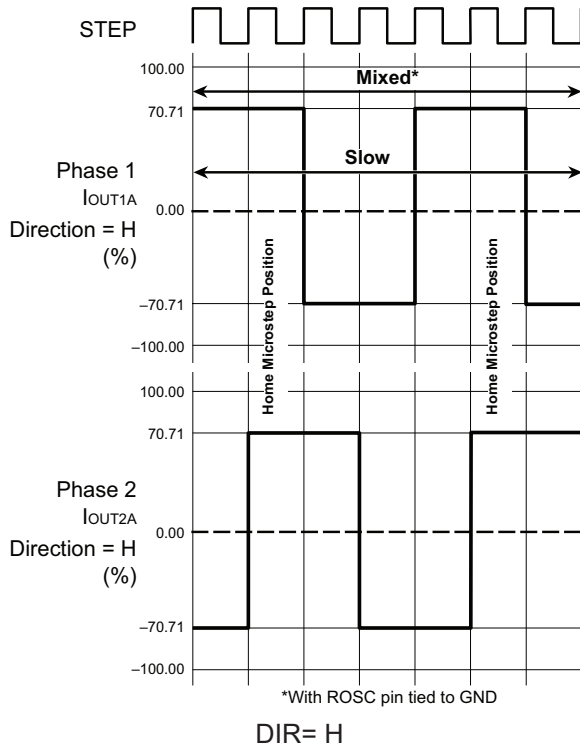

Figure 10: Decay Mode for Full-Step Increments
At power-on or reset, the translator sets the DACs and the phase current polarity to the initial Home state (shown in Figures 10 through 13), and the current regulator to Mixed Decay Mode for both phases. When a step command signal occurs on the STEP input, the translator automatically sequences the DACs to the next level and current polarity. (See Table 2 for the current-level sequence.) The microstep resolution is set by the combined effect of the MS1 and MS2 inputs, as shown in Table 1.
**Mixed Decay Operation.** The bridge operates in Mixed decay mode, at power-on and reset, and during normal running according to the ROSC configuration and the step sequence, as shown in Figures 10 through 13. During Mixed decay, when the trip point is reached, the A4985 initially goes into a fast decay mode for 31.25% of the off-time,  $t_{OFF}$ . After that, it switches to
**Reset Input ( $\overline{\text{RESET}}$ ).** The  $\overline{\text{RESET}}$  input sets the translator to a predefined Home state (shown in Figures 10 through 13), and turns off all of the FET outputs. All STEP inputs are ignored until the RESET input is set to high.
**Mixed Decay Operation.** The bridge operates in Mixed Decay mode, depending on the step sequence, as shown in Figures 10 through 13. As the trip point is reached, the A4985 initially goes into a fast decay mode for 31.25% of the off-time.  $t_{\text{OFF}}$ . After that, it switches to Slow Decay mode for the remainder of  $t_{\text{OFF}}$ . A timing diagram for this feature appears on the next page.